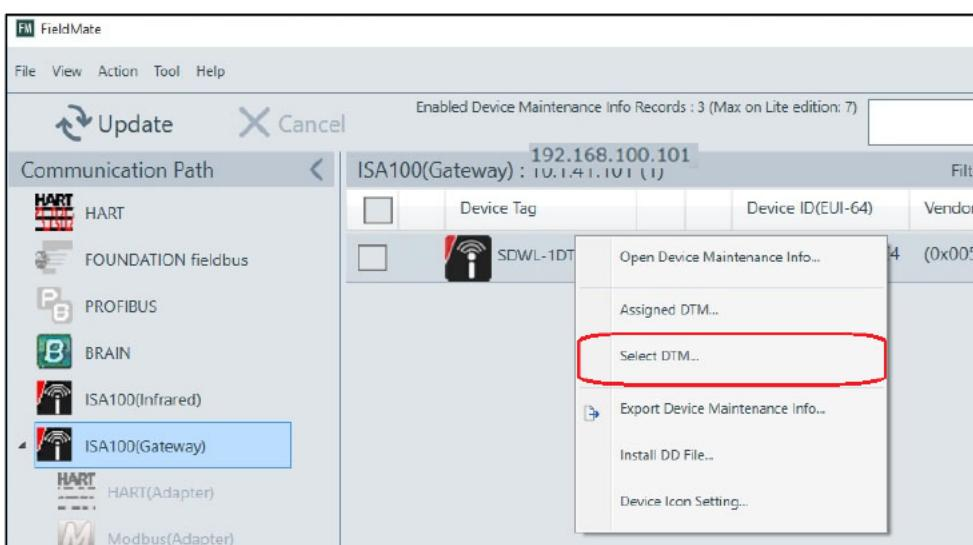

Figure 5-9 Segment viewer (DTM selection menu selection)
- ⑦ Right-click the SDWL-1 for which you wish to launch the DTM, then click "Select DTM...".
⑧ Figure 5-9)